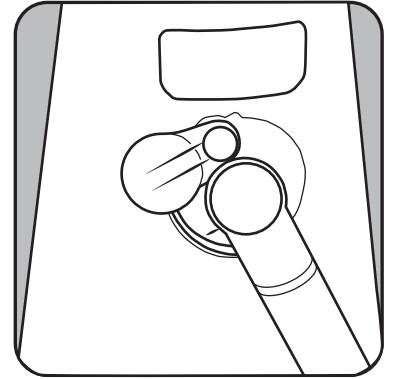

Fig. 1
1. Pull out and turn the lid of the accessory attachment opening. Remove the clog or blockage (Fig. 1).